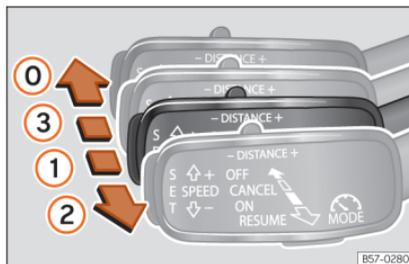
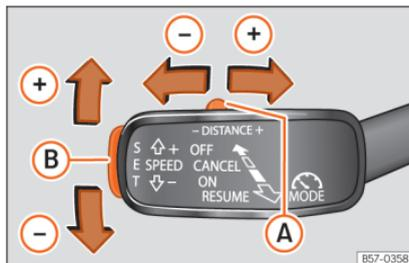

Fig. 236 On the left of the steering column: operating the ACC with the third lever.
Fig. 237 On the left of the steering column: operating the ACC with the third lever.
- To activate the ACC, move the third lever to position **ON** » **Fig. 236** (1). At this time, the ACC is not active and there is no programmed speed.
- Next, press button **SET** » **Fig. 237** (B) or move the lever to position **RESUME** »
»» Fig. 236 ②. At this moment the ACC is activated and the current speed and distance are programmed. The picture in the box will change to Active mode »» Fig. 234 B.
- If you wish to increase speed by intervals of 1 km/h [0.6 mph], move the lever to position **RESUME** »» Fig. 236 ②, or to decrease it press button **SET** »» Fig. 237 B.
- To increase or reduce the distance, press button  to the right or left »» Fig. 237.
- To disconnect the ACC move the lever to position **OFF** (fixed) »» Fig. 236 ①. An **ACC deactivated** message appears and the function is totally deactivated.